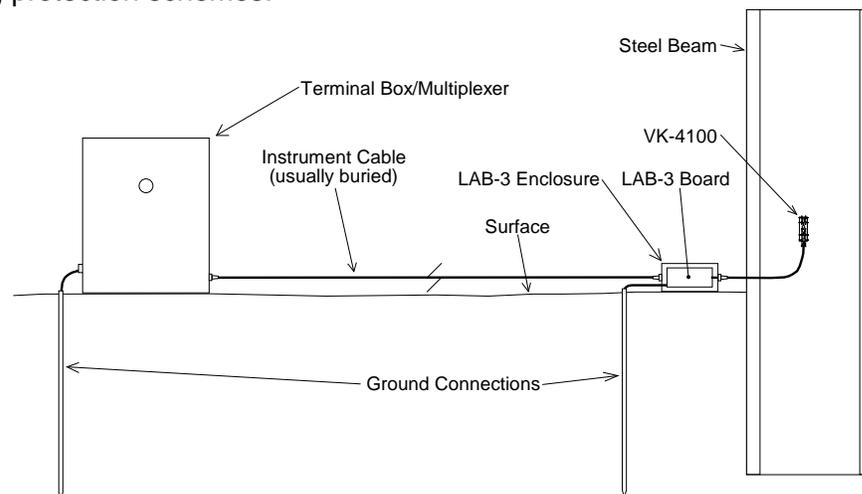

Figure 11 - Lightning Protection Scheme
- Lightning arrestor boards and enclosures are available from Geokon that install at the exit point of the instrument cable from the structure being monitored. The enclosure has a removable top so, in the event the protection board (LAB-3) is damaged, the user may service the components (or replace the board). A connection is made between this enclosure and earth ground to facilitate the passing of transients away from the gage. See Figure 11. Consult the factory for additional information on these or alternate lightning protection schemes.